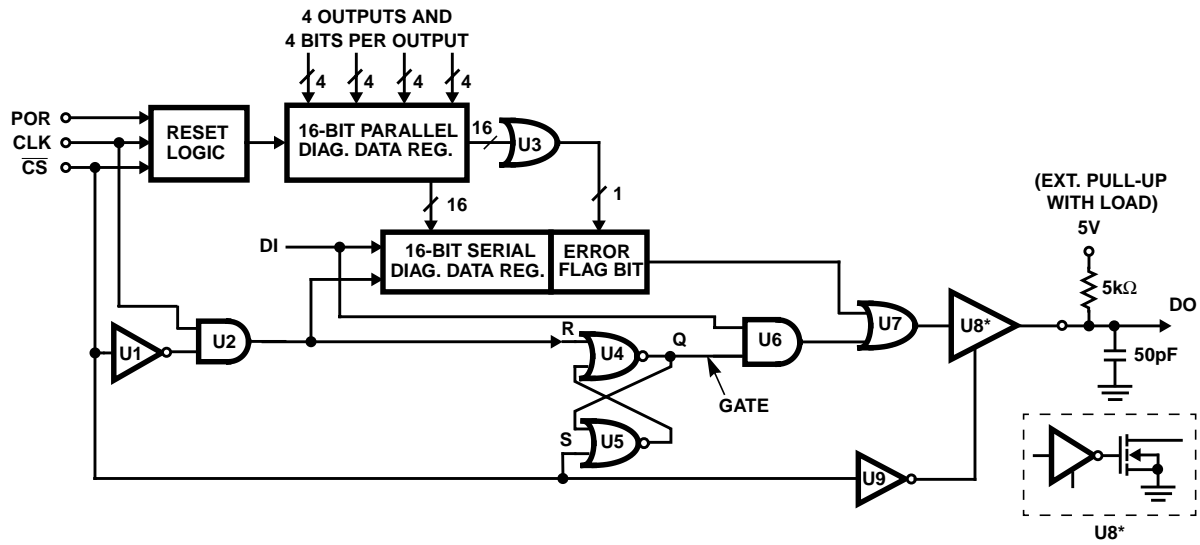
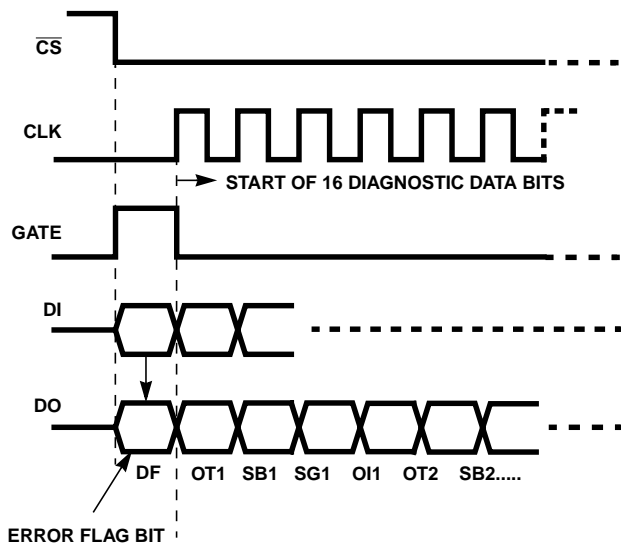

FIGURE 1. DIAGNOSTIC INTERFACE LOGIC
FIGURE 2. DATA AND CLOCK TIMING
Referring to Figure 1 and Figure 2, there are two sources that generate an OR'ed Fault Flag at DO when  $\overline{CS}$  goes low. The two fault data sources are (1) the on-chip fault detection and (2) the off-chip DI input from front end ICs in the cascade. The fault data bit, labeled DF (Data Fault) in Figure 2, contains the OR'ed inputs from both sources. The DF bit is not part of the 16-bit serial diagnostic data sequence. In cascaded operation, the DI input for the first of the selected chips should be tied low. And, in single IC operation (no cascade), the DI input should also be tied low. In cascaded operation, the Error Flags are cascaded via the DI inputs.
The last IC in the string ORs its own 16 fault bits in the parallel diagnostic register data and sends this data bit to an Error Flag register. The Error Flag register outputs the presence of a fault in one or more bits of the parallel diagnostic data register. As shown in Figure 2, the Error Flag is the first bit in front of the serial register and is input to OR Gate, U7 with the DI input. The DI input passes through AND Gate, U6 when the GATE signal is high and output via the amplifier U8 to DO. The output amplifier U8 is active only while  $\overline{CS}$  is low. When  $\overline{CS}$  is low, the RS Flip-Flop drives the GATE output high. When the GATE is high, the cascaded DF bits are jammed from DI to DO. All Error Flags in the cascade are cleared (by the CLK input) when the serial diagnostic data is clocked out of DO.
Technically, the HIP0080 and HIP0081 fault data has only 16 bits. Except for the Error Flag, DF data bit shown in Figure 2, the format matches that of a normal CPOL = 0, CPHA = 1 SPI protocol (polarities, phase, etc). The DF bit from the DO output is active only until the clock starts. The best way to take advantage of it (if desired) is to connect the DO to the SPI bus, and also to a port pin, or other logic input. After CS goes low and before the SPI clocks starts, the DF bit can be read. If it is a zero, then the rest of the data does not have to be read. (The data will be all 0's = no errors). If the DF bit = 1, then the data must be read to find out which bit(s) is set.